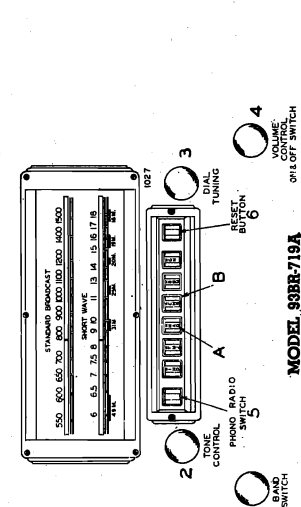

FIG. 3.
1. Pull the "Reset" button all the way out (see control No. 6, Fig. 3), and rotate the button to the left (counter-clockwise) until it cannot be turned any further.